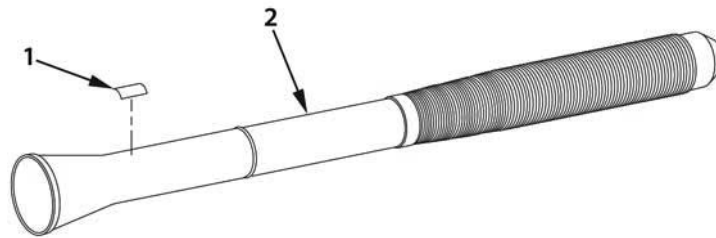

Figure 4. Removal of Item Unique Identification Label.
7. If damaged or illegible, remove Item Unique Identification (IUID) label (Figure 4, Item 1) from cannon (Figure 4, Item 2). Discard label. Remove adhesive residue with CLP.